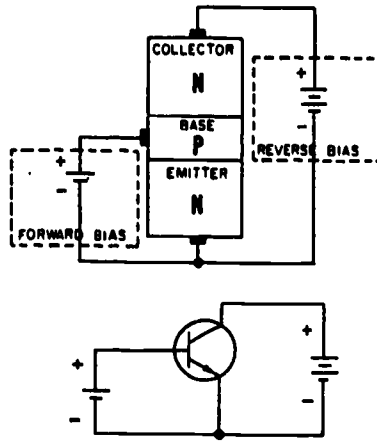

Fig 2-7 Properly biased NPN transistor.
b. However, since the second PN junction is required to be reverse biased for proper transistor operation, then the collector must be connected to an opposite polarity voltage (positive) than that indicated by its letter designation (NPN). The voltage on the collector must also be more positive than the base, shown in figure 2-7.